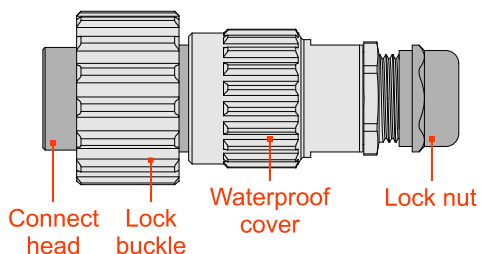

Figure3-22 AC connector
Step 2 Unscrew the lock nut and waterproof of AC connector (as shown in Figure3-22), lead the live wire, neutral wire and grounding wire go through the lock and crimp them to corresponding port of AC connector.